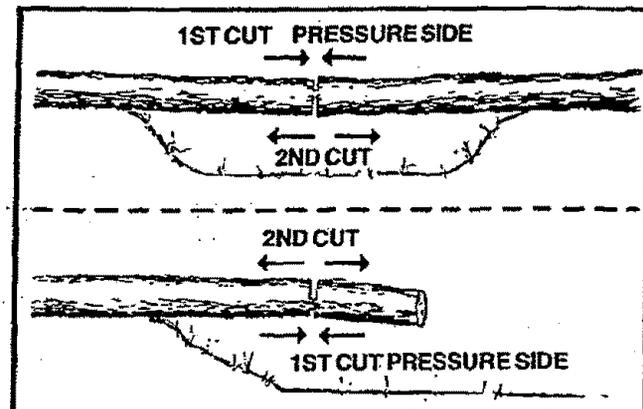

Figure 27
- d. Give special attention to logs under strain to prevent the saw from pinching. Make the first cut on the pressure side to relieve the stress on the log. Figure 27.